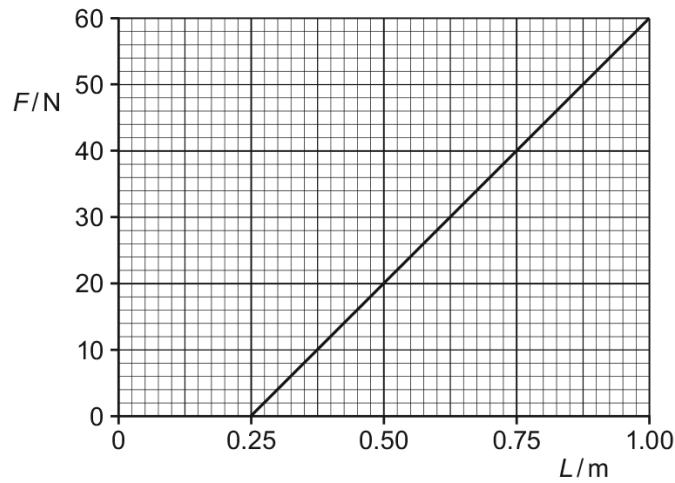

Fig. 3.2
- (c) The unstretched length of the cord in (b) is 0.25 m. The variation with length L of the tension F in the cord is shown in Fig. 3.2.
- (i) State and explain whether Fig. 3.2 suggests that the cord obeys Hooke's law.
- (iii) On Fig. 3.2, shade the area that represents the work done to extend the cord when the tension is increased from $F = 0$ to $F = 40$ N. [1]